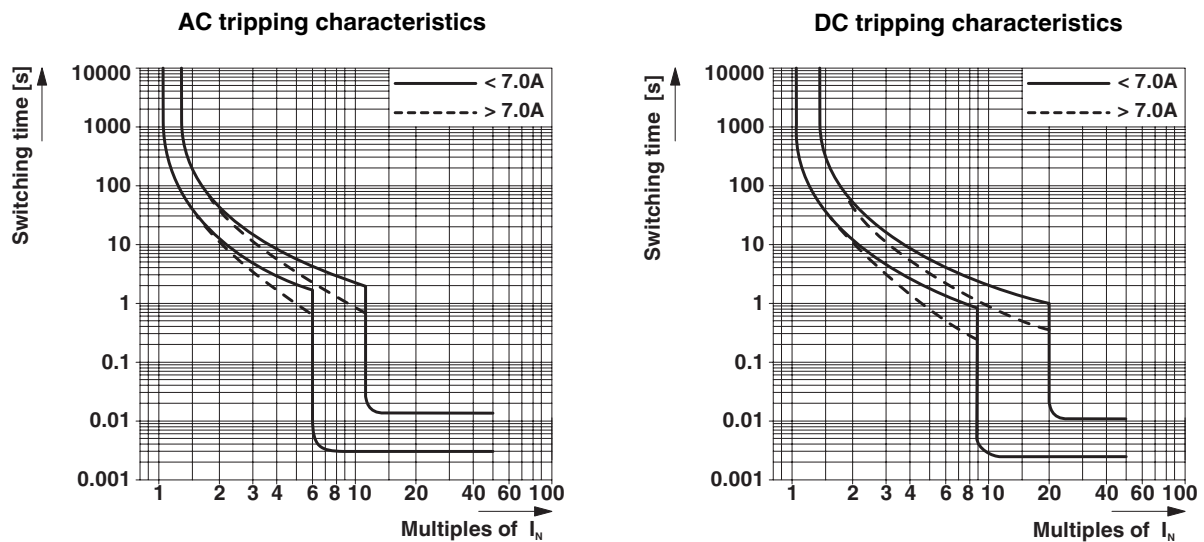

Figure 1 AC and DC tripping characteristics
NOTE: The magnetic tripping ranges differ for alternating currents (AC) and direct currents (DC). Please observe the tripping characteristics shown in Figure 1.